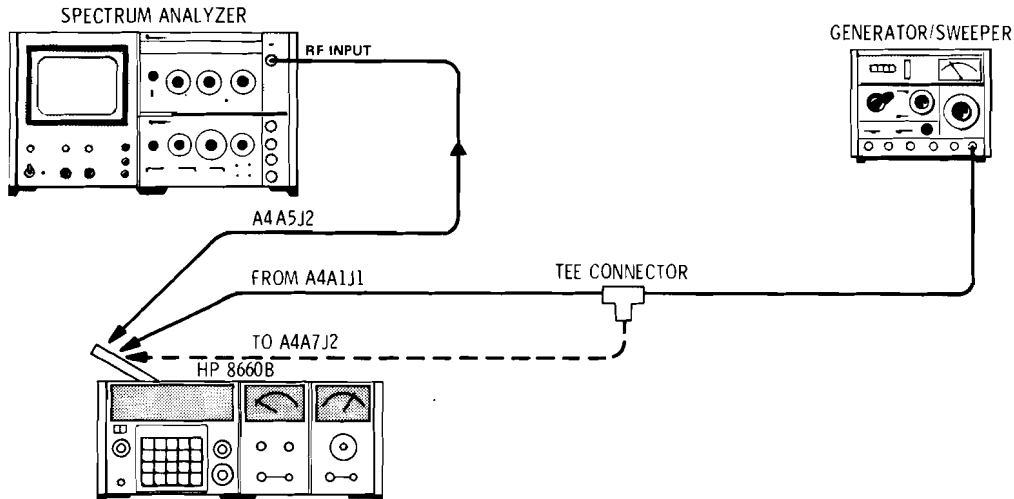

Figure 5-9. Loop Gain Adjustment
**4. Loop Gain Adjustment. (See Figure 5-9).**
c. Set the Signal Generator/Sweeper to 11.5 MHz CW at -35 dBm and symmetrical sweep width to 3 MHz. The analyzer display should be approximately as shown in the typical waveform shown in Figure 5-9. Adjust the A4A6 GAIN control (A4A6R2) for the response shown.